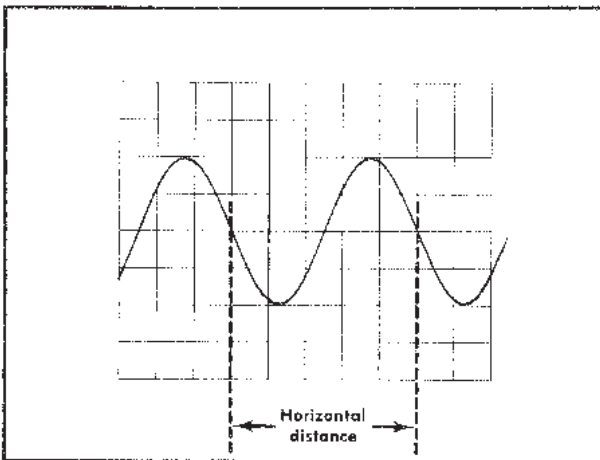

Fig. 1-5. Measuring time duration (period) between points on a waveform.
2. Set the time-base triggering controls to obtain a stable display. Set the Seconds/Div switch to the fastest sweep rate that will permit displaying one cycle of the waveform in less than eight divisions (some non-linearity may occur in the first and last graticule divisions of display). Refer to Fig. 1-5.
EXAMPLE: The frequency of the signal shown in Fig. 1-5, which has a period of 0.5 millisecond is: